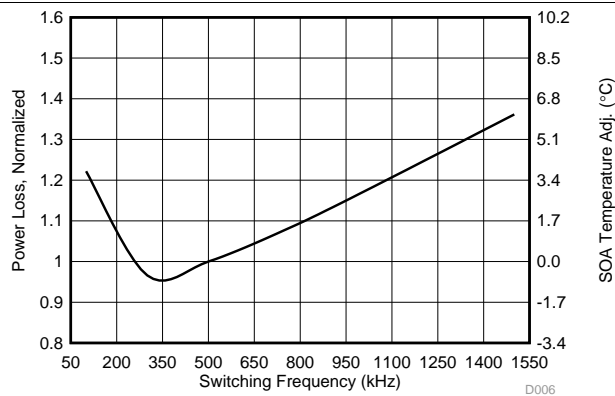

Figure 5. Normalized Power Loss vs Switching Frequency
- Normalized power loss for switching frequency ≈ 1.08 (Figure 5)
- SOA adjustment for switching frequency $\approx 1.32^\circ\text{C}$ (Figure 5)